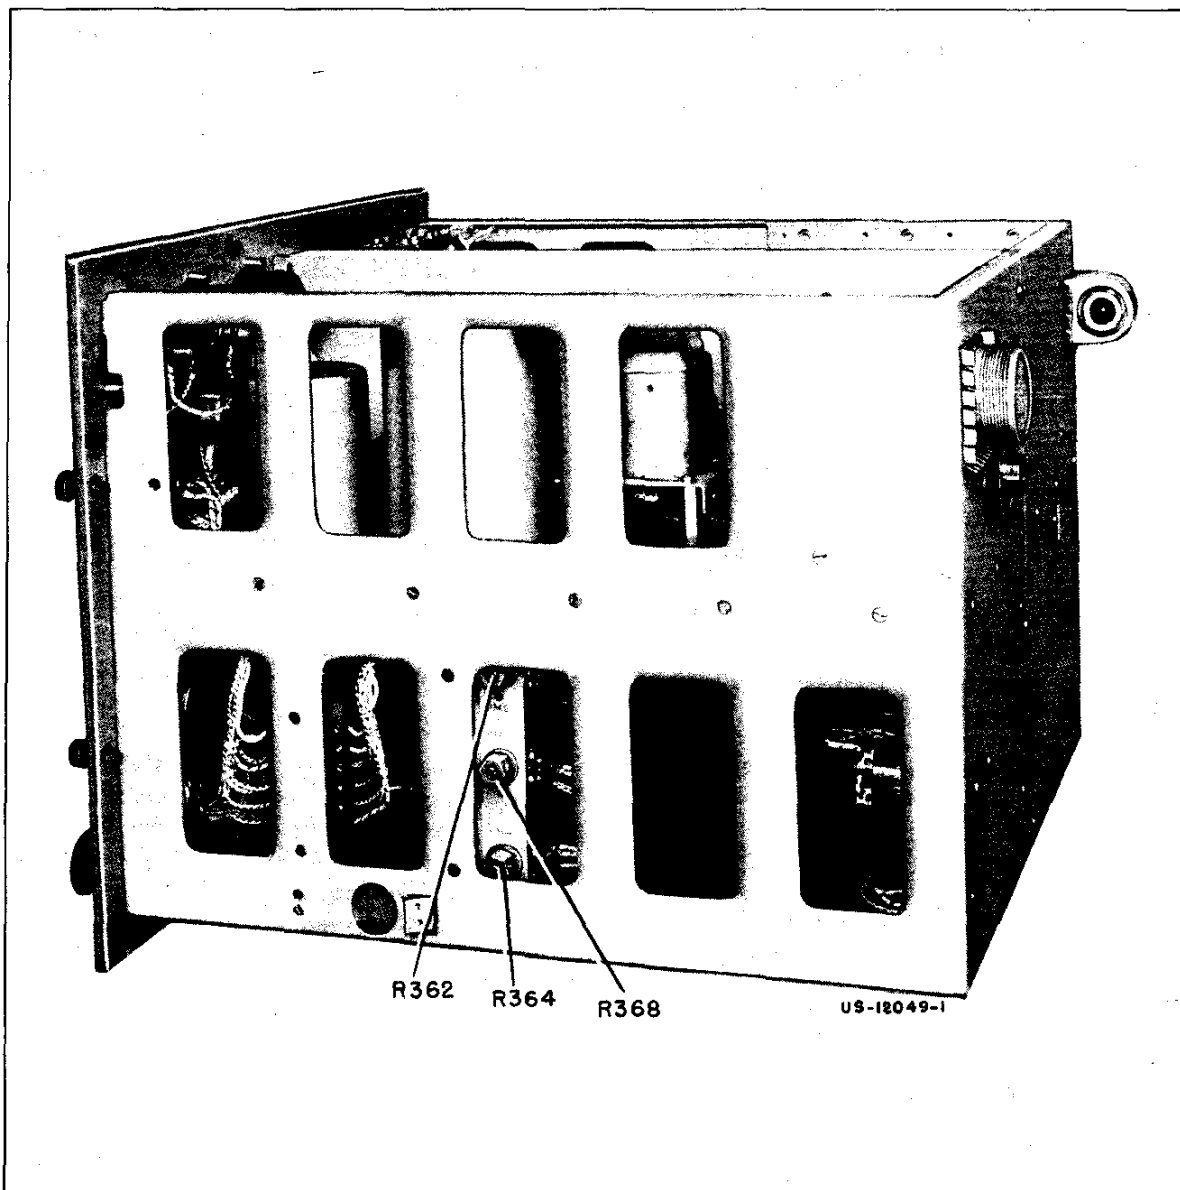

Figure 7-17. RBB/RBC Component Identification, Right Side
c. INPUT METER ADJUSTMENTS.—When the INPUT meter is used to measure signal input voltages, the meter adjustments should be checked frequently. Potentiometer R368, indicated on Figures 7-17 and 7-18, is used to set the operating level of the meter. An unmodulated r-f signal, at any reception frequency, is required for meter adjustment.
After unlocking the shaft nut on R368, Figure 7-17, rotate the shaft for a deflection of 80 db on the INPUT meter. Tighten the lock nut.